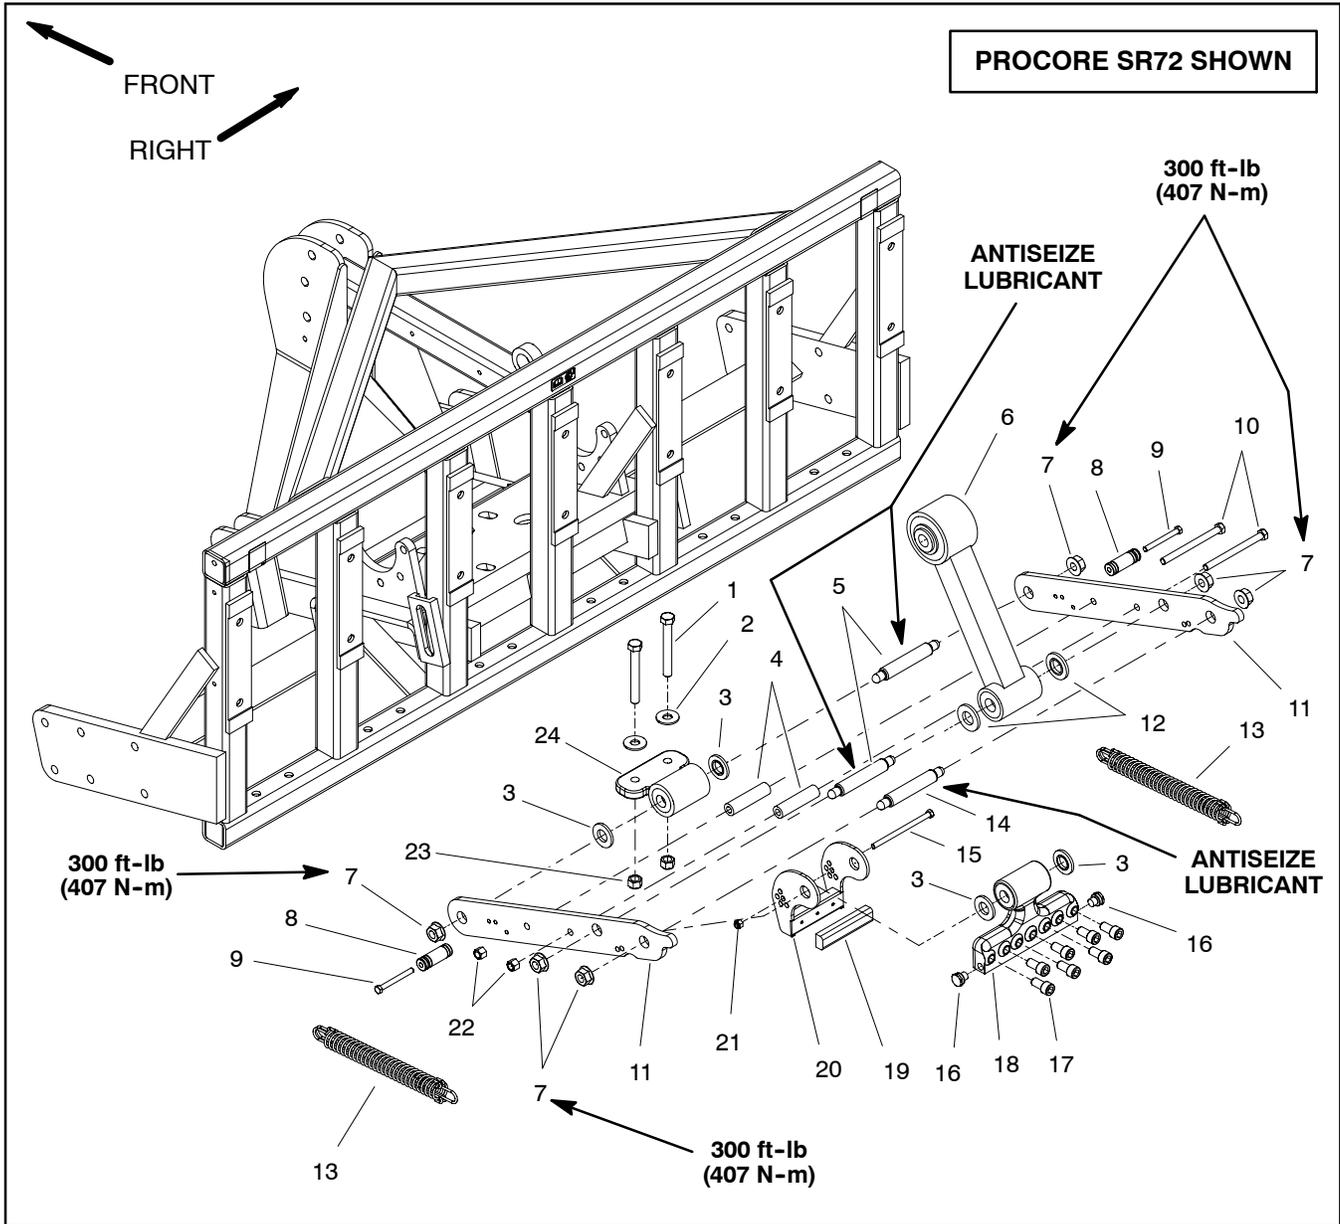

Figure 5
NOTE: The linkage arm assemblies for ProCore SR48 and SR72 series aerators are very similar. The ProCore SR72 is shown in Figure 5.
Disassembly (Fig. 5)
2. Remove both spring assemblies from rear spring post (item 8) and front spring holder (item 16).
3. Remove linkage arm components as needed using Figure 5 as a guide.
Assembly (Fig. 5)
3. Assemble linkage arm components using Figure 5 as a guide. Torque flange nuts (item 7) to **300 ft-lb (407 N-m)**.